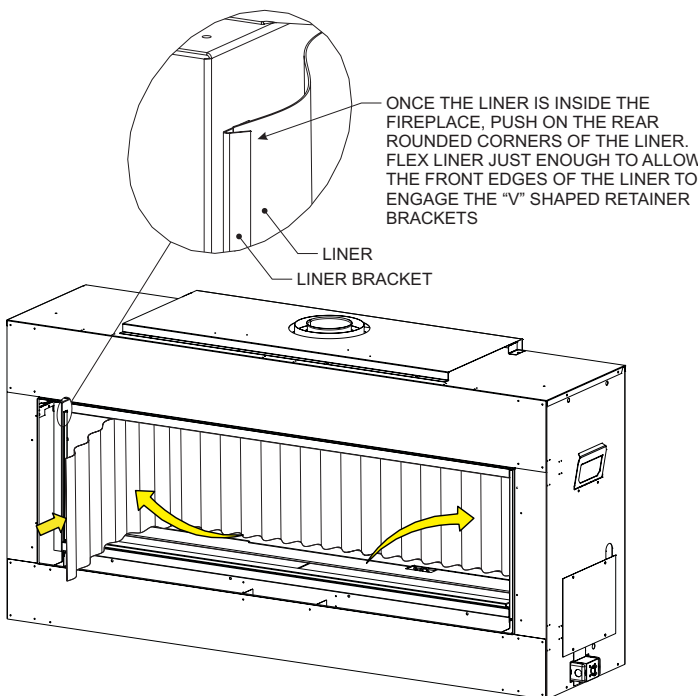

Figure 5
11. Once the right end of the liner is locked into the right side bracket, continue to work in the left side of the liner until the complete liner is setting inside the fireplace. **See Figure 5.**
12. To complete the liner installation, push the left side of the liner towards the left rear corner of the fireplace. Push inward just enough to engage the left end of the liner into the left side liner bracket. **See Figure 5.** The liner edges are held in place by the side brackets. The forward pressure of the liner keeps the liner in place, due to the radius rear corners on the liner. **See Figure 5 inset.**